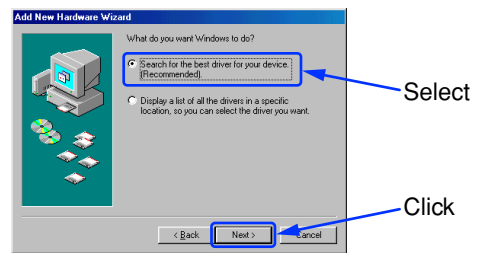

Fig. 1
- Select [Search for the best driver for your device. (Recommended).] and click [Next >]. (Fig. 1)